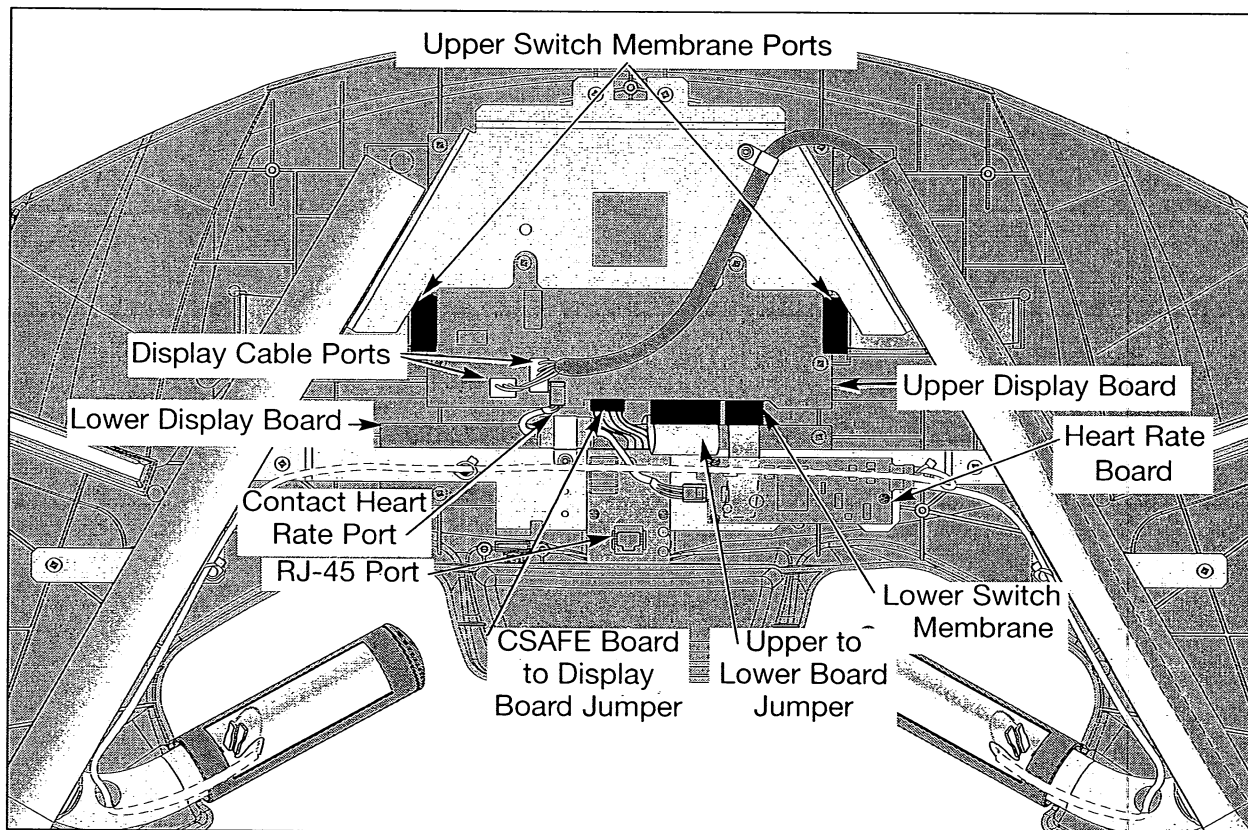

Figure 24
- A. Disconnect these cables from the display board: the display cable (2 connectors), the two upper switch membranes, the lower switch membrane, the contact heart rate cable, the CSAFE board to display board jumper and the upper to lower board jumper. See Figure 24.
- A. Connect these cables into the display board: the display cable (2 connectors), the two upper switch membranes, the lower switch membrane, the contact heart rate cable, the CSAFE board to display board jumper and the upper to lower board jumper. See Figure 24.